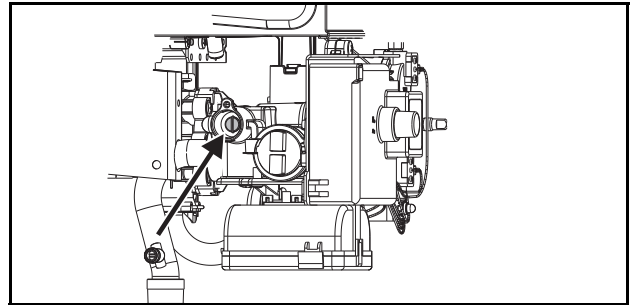

Fig. 15 Maximum gas flow adjusting screw
- ▶ Remove the screw seal (Fig. 15).